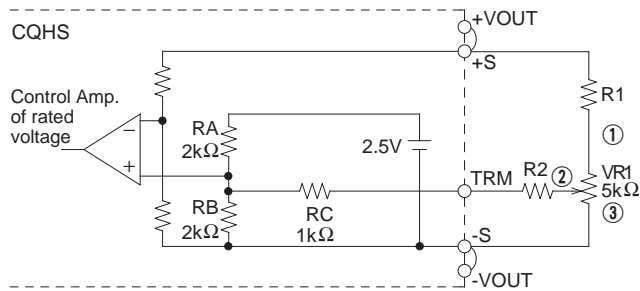

Fig. 4.4 Output voltage control circuit
(1) Output voltage adjusting
- By connecting the external potentiometer (VR1) and resistors (R1,R2), output voltage becomes adjustable, as shown in Fig.4.4, recommended external parts are shown in Table 4.2.